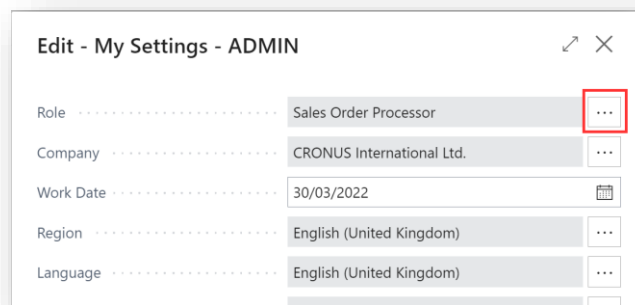

Figure 3-3
2. In the **My Settings** page, on the **Role** field, select the **AssistEdit** icon (Figure 3-3).